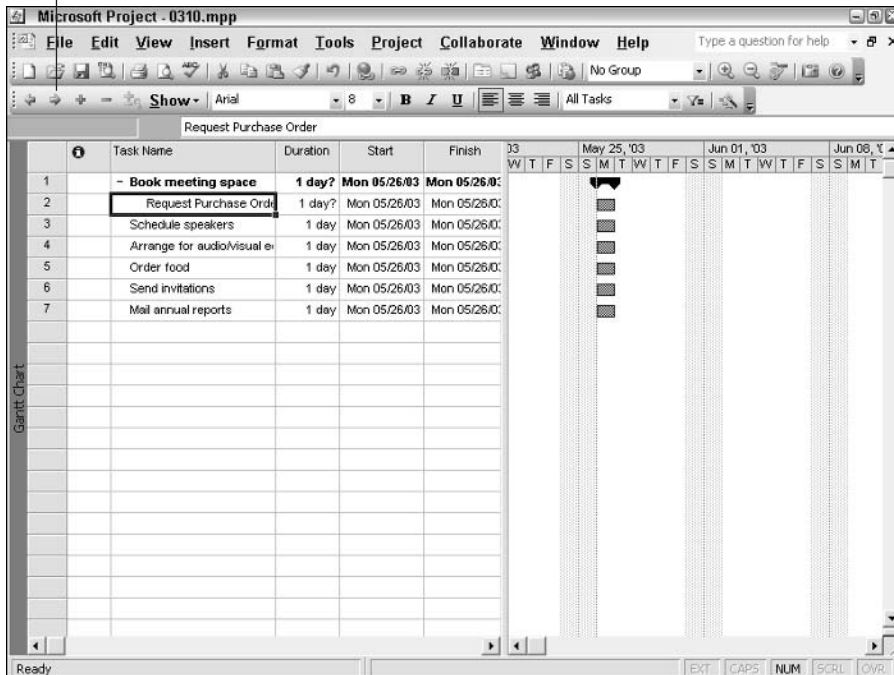

Figure 3-11: The summary task now appears in boldface type.
4. Click the Indent button on the Formatting toolbar (it looks like a right-facing arrow) to indent the subtask, as shown in Figure 3-11.